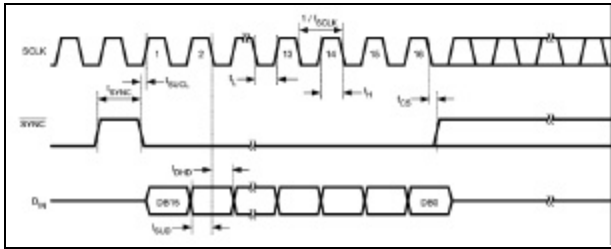

Figure 2: Digital Input Timing Diagram
2. Create the digital waveforms seen in *Figure 2* with your Logic Generator. Ensure that SCLK doesn't exceed 30MHz. Refer to Section 4.1: Serial Interface, and the DAC121S101QML Datasheet for further details.
In Stand-Alone Mode, The serial interface must be driven by an external device. The three-wire interface (SCLK, SYNC, D_{IN}) is compatible with SPI, QSPI and MICROWIRE, as well as most DSPs. See the Timing Diagram (Figure 2) for information on a write sequence.